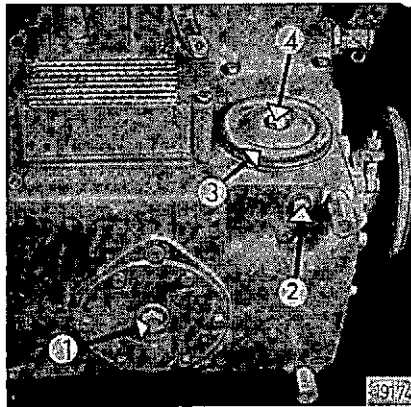
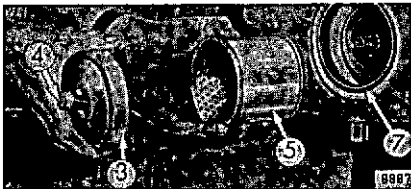

Fig. 22
Fig. 23
Carry out oil changes only when the engine is warm as the oil drains off better when warm. Remove for this plugs 1 and 2 (Fig. 22). Next remove screw 4 to detach filter bowl 3 and wash strainer 5 (Fig. 23) in clean diesel fuel.
* The lube oil filter (Fig. 23) consists of strainer 5, through which the oil, coming from the oil pump, is forced and deposits its impurities on the jacket surface. The filtered oil reaches the lubrication points.